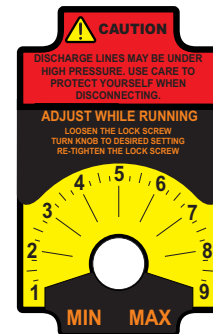

FIG. 5.1
5.1 Adjusting the Pump Output- Standard models (fig. 5.1) - The 520-2006 flow rate can be adjusted within a range of 5% -100% of maximum output (20:1 turndown ration) by means of a mechanical, cam type mechanism. The mechanism adjusts the pump's stroke length to an infinite number of settings within the flow range. Because the pump's output is reduced by increasing the pressure of the system being injected into, the amount of suction lift, and the viscosity of the fluid being injected, the pump must be over-sized to allow for these factors. Sizing the pump to allow adjustment within the midrange is preferred to maintain accuracy. Consult the factory for individual pump model output curve data.